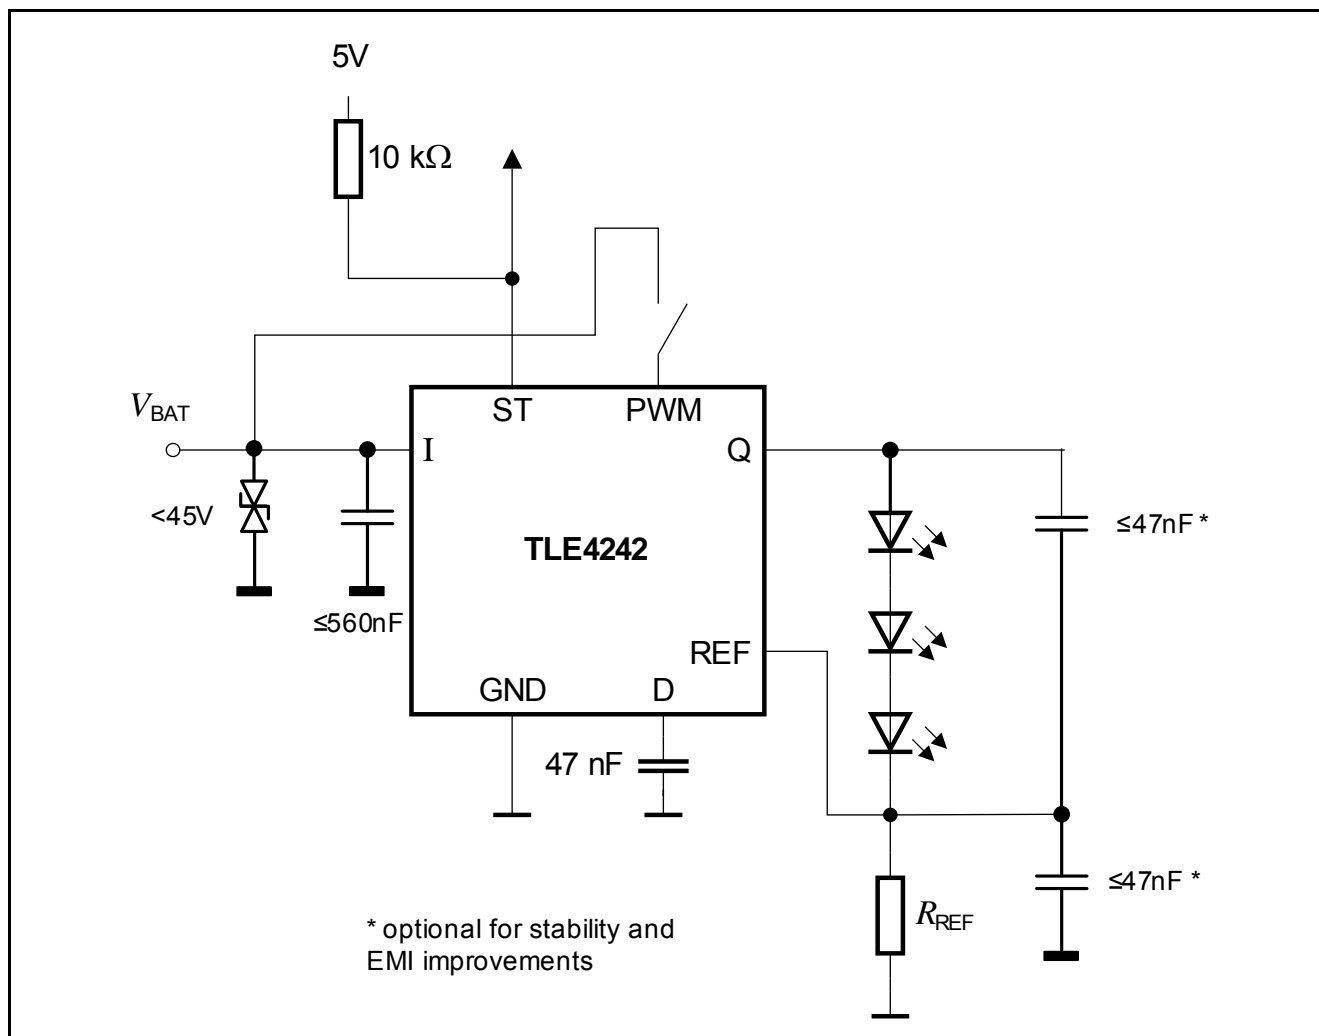

Figure 6-1 Application Diagram
The application example in **Figure 6-1** shows a typical application with the TLE4242EJ LED driver. The three LEDs are driven with an adequate supply current adjusted by the resistor  $R_{REF}$ . Thus brightness variations due to forward voltage spread of the LEDs are prevented. The luminosity spread arising from the LED production process can be compensated via software by an appropriate duty cycle applied to the PWM pin. Therefore, selection of the LEDs to forward voltage as well as to luminosity classes can be spared. The minimum supply voltage for the application is the sum of the LED forward voltages, the TLE4242EJ drop voltage **Minimum drop voltage  $V_{dr} = VI - VQ$**  and the max. voltage drop at the shunt resistor  $R_{REF}$  of  $V_{REF(max)}$  according to **Reference voltage**.
2)  $V_Q - V_{REF}$  equals the forward voltage sum of the connected LEDs, see Figure 6-1